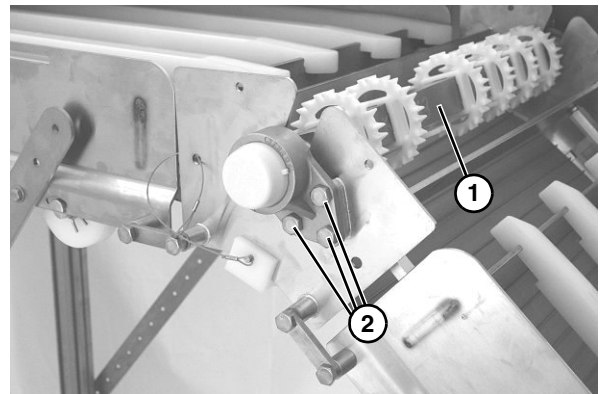

Figure 71
8. Insert spindle assembly (**Figure 71, item 1**) onto knuckle, and attach with three bolts (**Figure 71, item 2**).